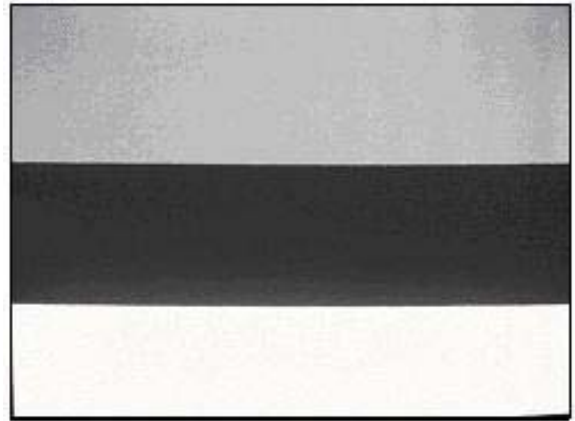

Figure 1
TEC Film is a short strip of negative film uniformly exposed and processed by Kodak under tightly controlled conditions. Each frame is comprised of three horizontal density strips (Figure 1). By setting lift, gain, and gamma to the prescribed RGB voltages for each density, every telecine can be aligned to a common standard for exposure evaluation of KODAK Color Negative Films.
2. Load the TEC film on the telecine, verifying that white leader is at the head of the roll and punch holes (35 mm only) are loaded toward the back of the telecine. Be sure the film is properly framed in the gate. (See Figure 1)